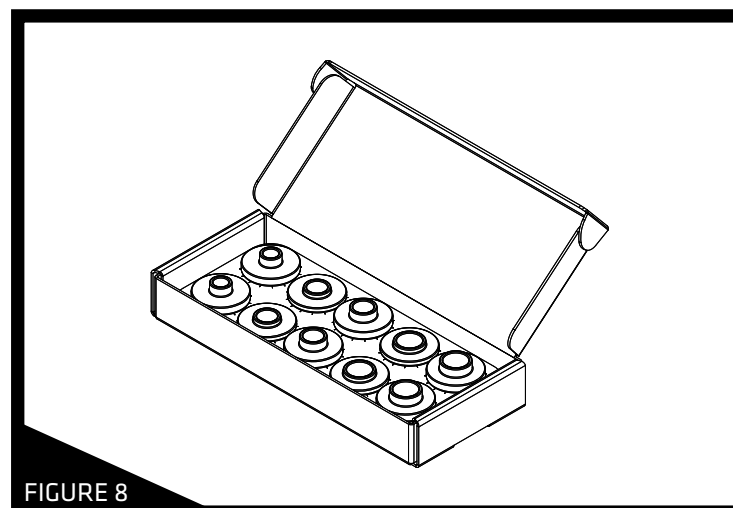

FIGURE 8
STEP 1: The rack will come installed with [x2] 9mm x 100mm (Black) Thru-Axle Adapters by default, but this size can be swapped out with the appropriate pair of Thru-Axle Adapters below that fit your bike's thru-axle as shown in **Figure 8**.